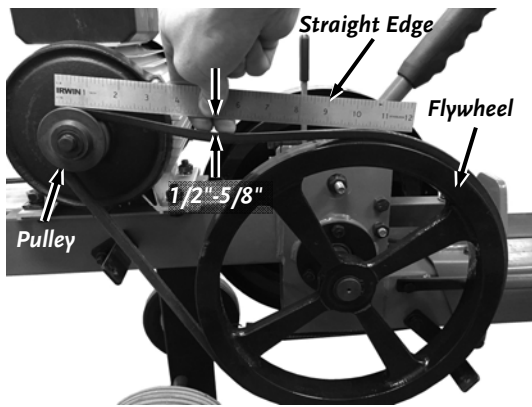

Figure 15
2. Place a Straight Edge across the top of the belt (**Figure 15**).
4. Install a new Belt onto the Pulley and Flywheel (**Figure 15**).